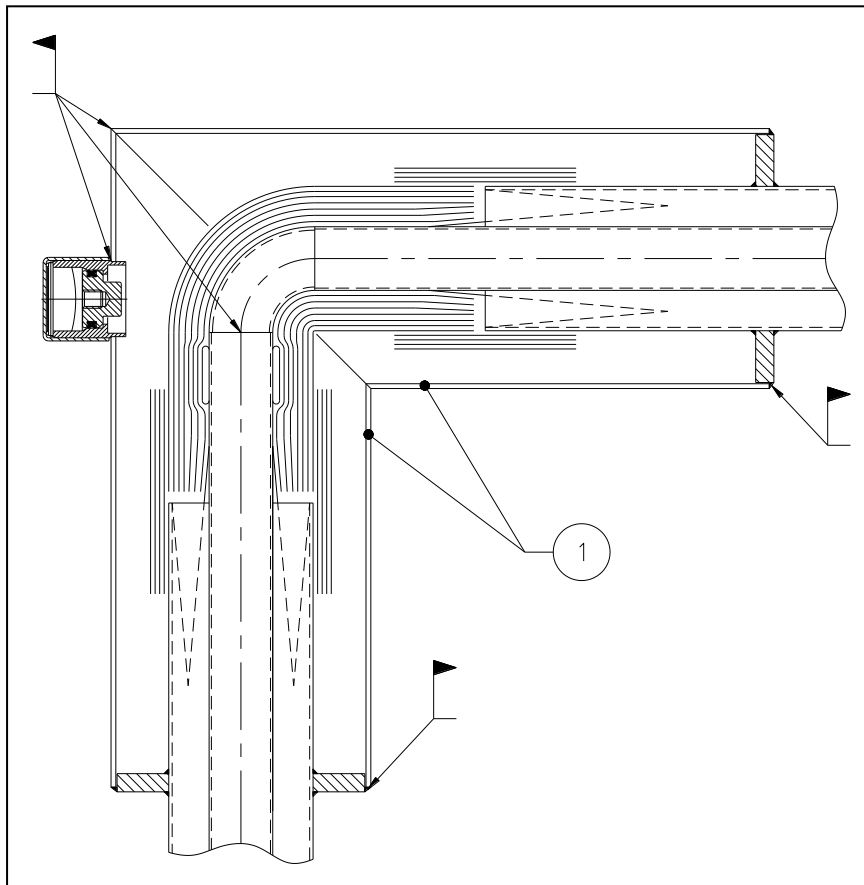

figure 5; *Corner welded coupling*
Apart from the above described straight welded coupling, Demaco Holland B.V also supplies a corner welded coupling. This coupling is used when two sections have to be connected at an angle of  $90^\circ$ . For this coupling the same fitting procedure applies as for the straight welded coupling. The only difference is the jacket (Fig.5, pos.1), which is, for this version, composed of two sections instead of one pipe section. These two sections must, before the inner piping is welded, be slid around both sections. Figure 5 shows a cross section of the Demaco corner welded coupling.